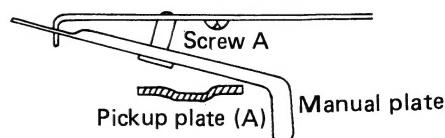

Figure 9.
2) When loosening screw A (See Figure 9) for replacing the Plate refer to the following adjustment.